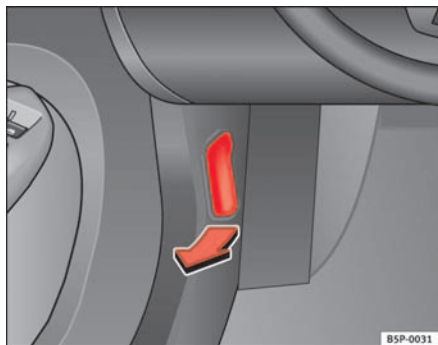

Fig. 151 Detail of the footwell: The release lever for the bonnet is located in the driver side footwell
- To release the bonnet, pull the lever under the dashboard ⇒ **fig. 151** in the direction indicated (arrow). The bonnet will be released by a spring action ⇒ **⚠**.